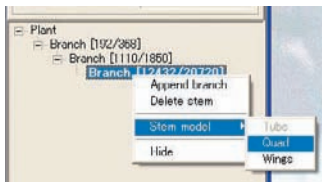

Figure 7.33 Setting the Stem Model to Quad
6. One more level of branching is necessary to create the leaves. Append another branch level to the branches of the palm tree in the same way you appended them to the trunk. Select the new branch level, right-click, and choose Stem Model > Quad as shown in Figure 7.33 to make these branches quads.